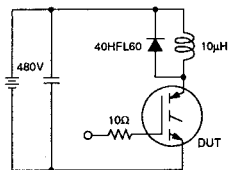

Fig 12a. Clamped Inductive Load Test Circuit
- ② $V_{CC} = 80\%$ (BV_{CES}), $V_{GE} = 20V$, $L \geq 10\text{ }\mu\text{H}$, $R_G = 10\Omega$, (See figure 12a)